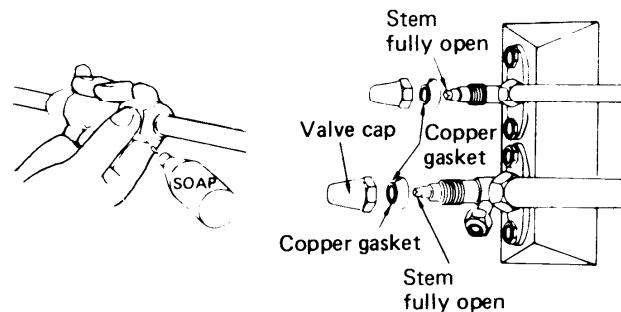
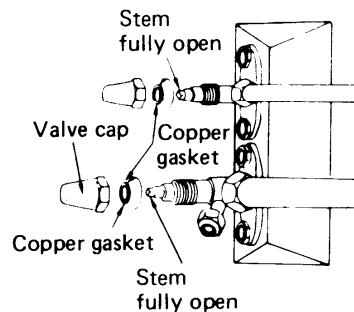

Fig. 12
Fig. 13
- ⑥ Leak test the joints with liquid soap. Fig. 12
- ⑦ Fully open the stems of the service valves on the wide tube and the narrow tube.
- ⑧ Next, install a valve cap in which copper gasket has been inserted. Fig. 13
- ⑨ Here, all air purge procedure has completed and the unit is ready for trial operation.